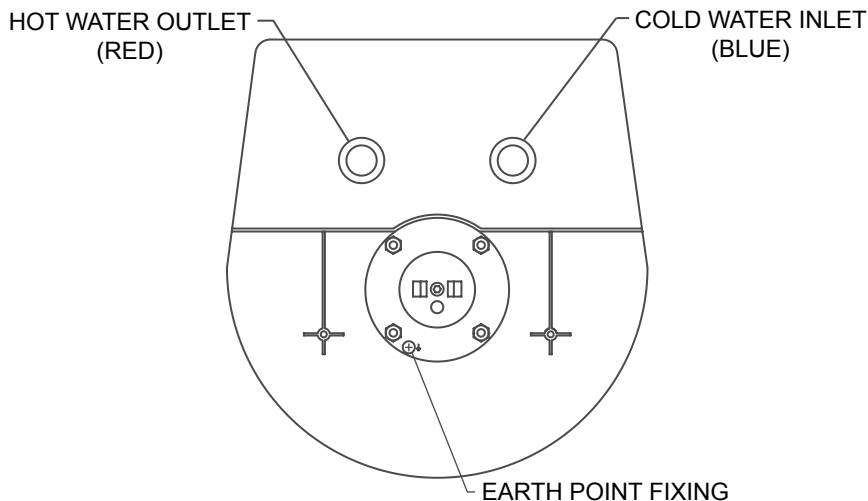

FIGURE 06: CORRECT ORIENTATION OF ELEMENT PLATE
- 6.1.10 Refit the element plate assembly, fitting a new sealing gasket if required. Note the correct orientation of the element plate by reference to figure 06, page 12. Refit the capillary sensors, retaining plug and earth wire. Refit the cover, insert the two self-tapping screws to secure and refit the temperature control knob.